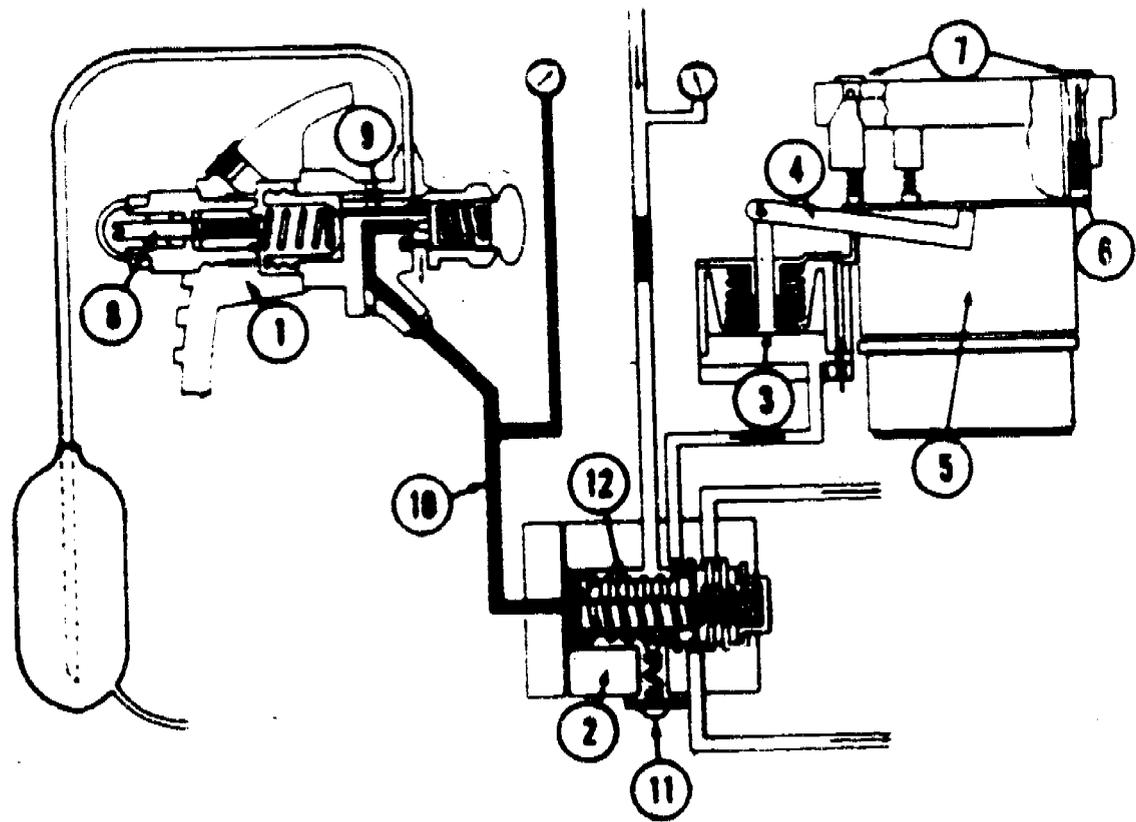

Figure 9. Cylinder Unloader
1. Identify the numbered items in figure 9 by placing their identifying numbers in the spaces below their names.
3. In figure 9, color the oil pump pressure, suction pressure, and control oil pressure according to the following code: